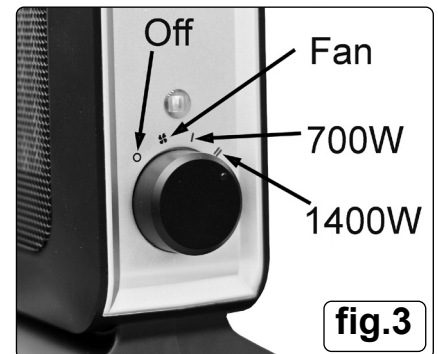

fig.3
- 4.2. For fan only select switch position labelled (fig.3)
- 4.4. **LOW SETTING:** Select switch position marked with "I" (fig.3).
- 4.5. **HIGH SETTING:** Select switch position marked with "II" (fig.3).
- 4.7. To switch the unit off, turn the heat selecting switch to the off position "O" (fig.3) and unplug from the mains supply.
- a) Switch 'off' the heater at the "O" position (fig.3).